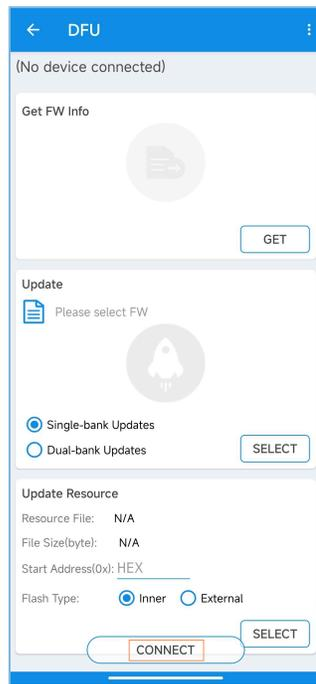
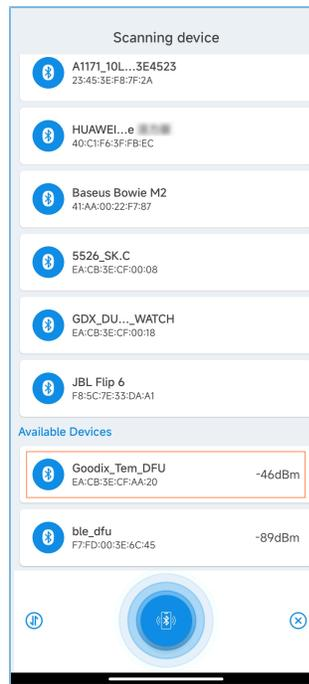

Figure 4-8 DFU interface
Figure 4-9 Scanning device
2. Enter the **DFU** interface (Figure 4-8). As no device is connected, click **CONNECT** at the bottom to enter the device connection interface, as shown in Figure 4-9.